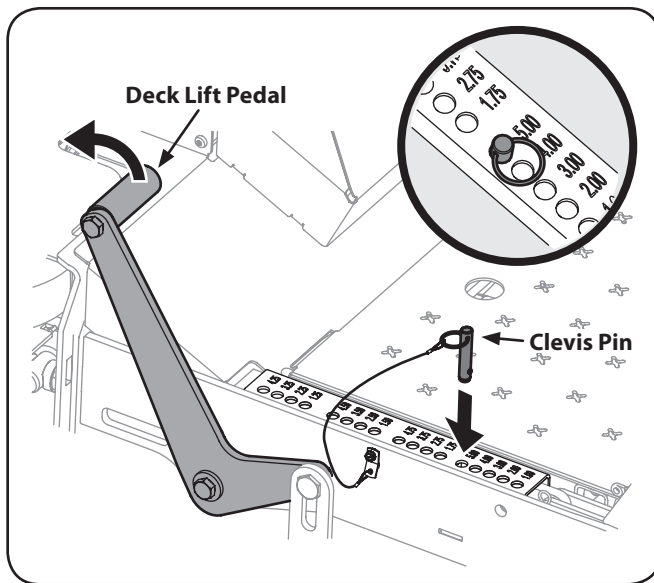

Figure 3-1
2. Use the deck lift pedal to raise the deck to its highest position and secure in place with the clevis pin attached to the machine. See Fig. 3-1.